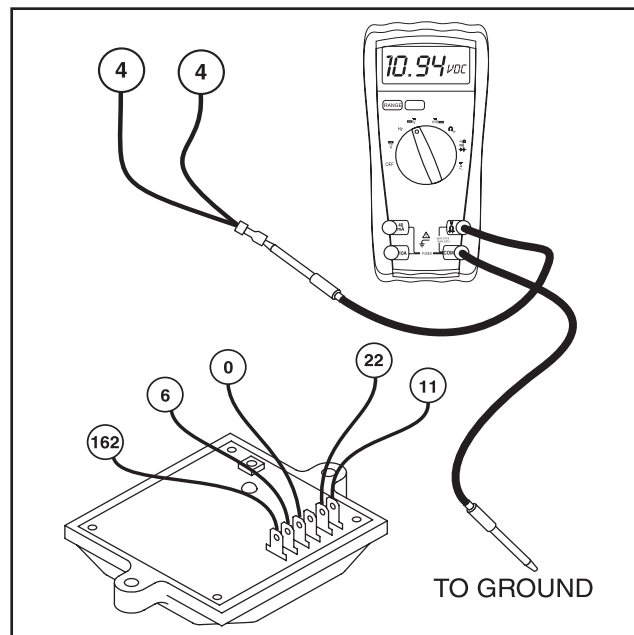

Figure 4. Field Boost Test Points
1. Disconnect Wire 4 from the voltage regulator, third terminal from the top (see Figure 4).
6. Crank the engine while observing the VOM reading. While the engine is cranking, the VOM should read approximately 9-10 volts DC. When engine is not cranking, VOM should indicate “zero” volts (see Figure 4).